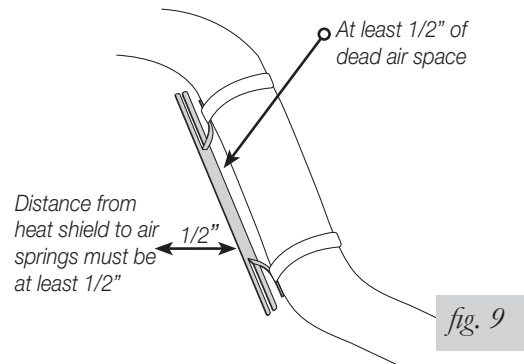

fig. 9
2. Attach the heat shield (N) to the exhaust pipe using the provided clamps (O). See Figure 9. Bend the heat shield for maximum clearance to the air spring.